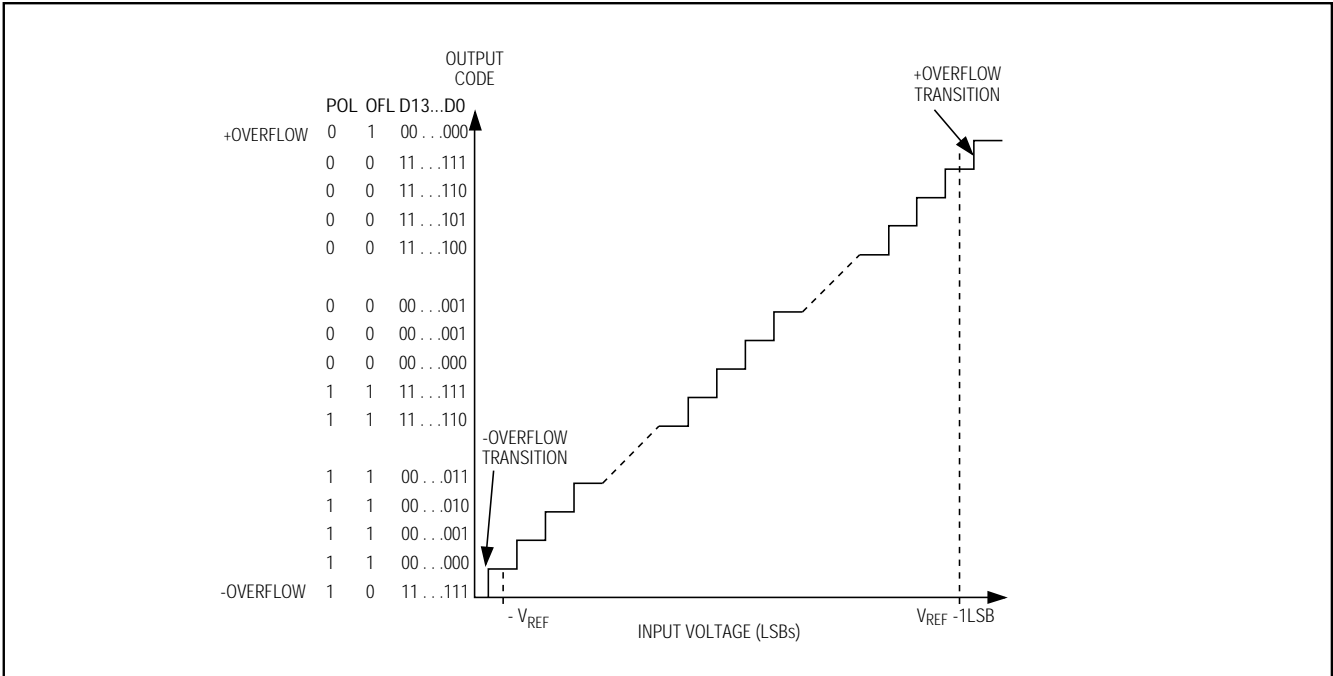
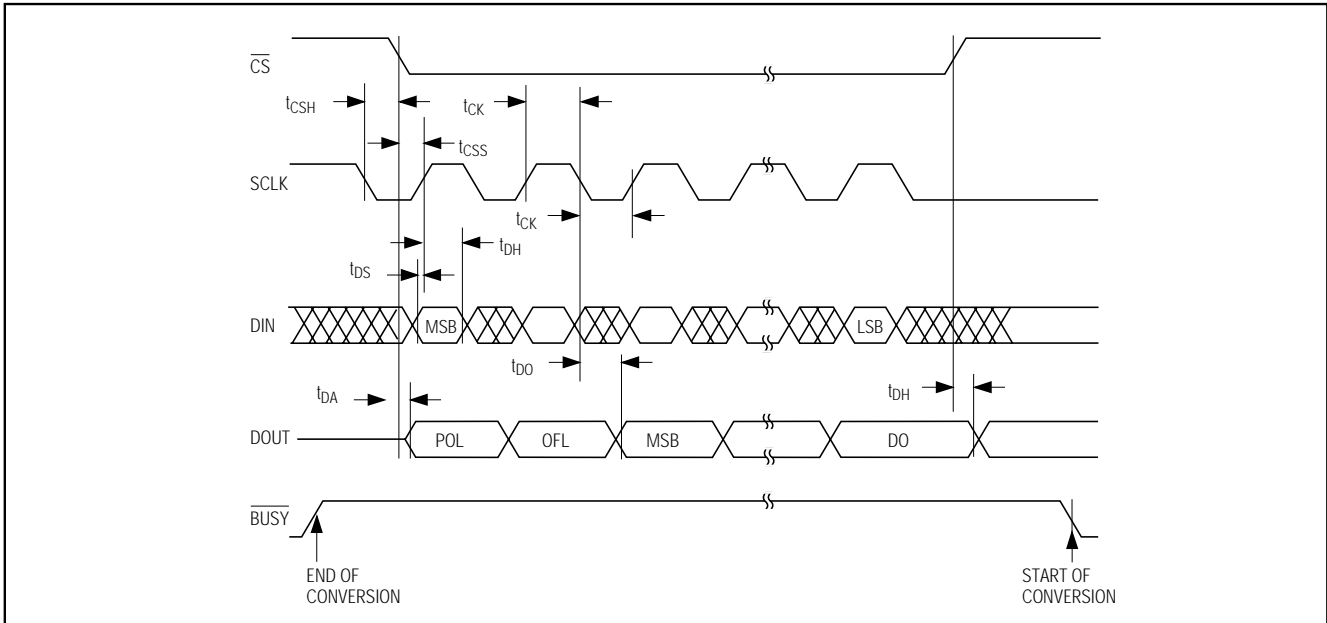

Figure 4. Differential Transfer Function
Figure 6. Detailed Serial-Interface Timing
The output data from the MAX110/MAX111 is arranged in twos-complement format (Figures 4, 5). The sign bit (POL) is shifted out first, followed by the overrange bit (OR), and the 14 data bits (MSB first) (see Figure 6). The MAX110 operates from $\pm 5\text{V}$ power supplies and converts low-frequency analog signals in the $\pm 3\text{V}$ range when using the maximum reference voltage of $V_{REF} = 3\text{V}$ ($V_{REF} = V_{REF+} - V_{REF-}$). Within the $\pm 3\text{V}$ input range, greater accuracy is obtained within $\pm 2.5\text{V}$ (see *Electrical Characteristics* for details). Note that a negative input voltage is defined as $V_{IN-} > V_{IN+}$. For the MAX110, the absolute voltage at any analog input pin must remain within the $(V_{SS} + 2.25\text{V})$ to $(V_{DD} - 2.25\text{V})$ range.
Data is transferred into and out of the serial I/O shift register by pulling $\overline{\text{CS}}$ low and applying a serial clock at SCLK. This fully static shift register allows SCLK to range from DC to 2MHz. Output data from the ADC is clocked out on SCLK’s falling edge and should be read on SCLK’s rising edge. Input data to the ADC at DIN is clocked in on SCLK’s rising edge. A new conversion begins when $\overline{\text{CS}}$ returns high, provided the MSB in the input control word (NO-OP) is a 1 (see *Using the MAX110/MAX111 with MICROWIRE, SPI, and QSPI Serial Interfaces*). Figure 6 shows the detailed serial-interface timing diagram.